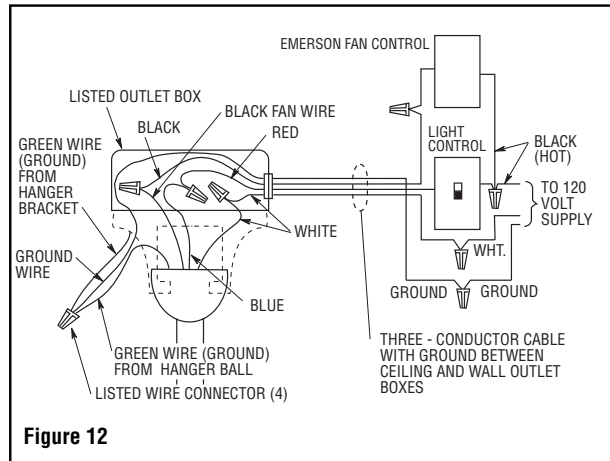

Figure 12
1. For a wall control installation you will need a three-wire (with ground) conductor cable between the ceiling and wall outlet boxes. This will allow you to control the fan separately from the lights. Figure 12 is a basic wiring diagram that will control the uplight and downlight on a switch and the fan on a separate control. Refer to the installation instructions and wiring diagrams supplied with the Emerson Fan Control Owner's Manual.